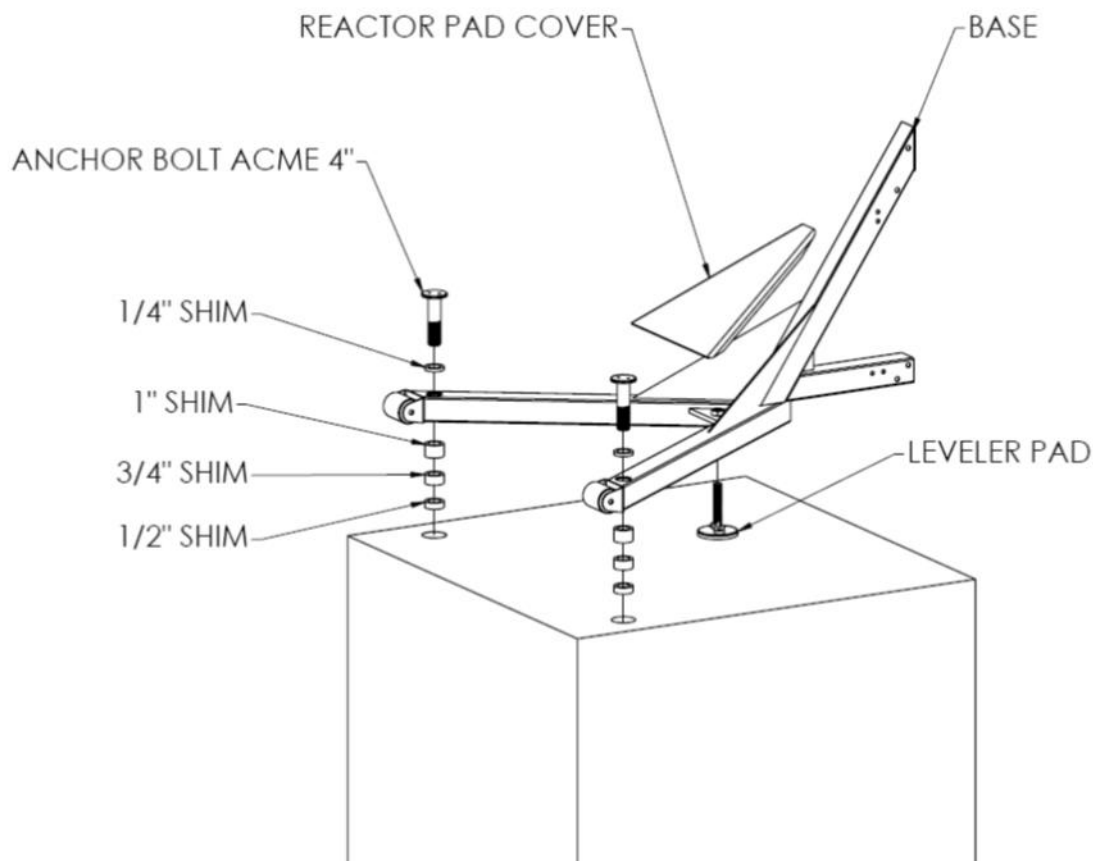

Figure 4
2. Use a 1-1/2" diameter concrete core drill to drill out the anchor holes to a depth of 2-3/16" as shown in Figure 4. Clean all of the debris from the holes. Check to see that the bottom of each hole is in solid concrete. The anchors will only hold if the surrounding concrete is solid. The top of the anchor should be  $\frac{1}{4}$ " below the deck surface. The anchors can be installed deeper, if necessary, to mount to sufficiently solid concrete.
5. Screw the leveler pad into the base assembly as shown in Figure 4, flush with the bottom of the base stand until further adjustment.
6. Bolt the lift to the anchors in the deck using two 1" by 4" acme bolts as shown in Figure 4. **Do not completely tighten the 1" diameter acme bolts at this time.**
10. Level the lift front to back, if necessary, by using donut shims between the base stand and each anchor, and adjusting the leveler pad by screwing the pad in or out. The donut shims can be used individually or in combination to level the lift. The donut shims can be used above the anchor base or below as shown in Figure 4 to prevent the acme bolts from bottoming out in the anchors.
12. Install cover on lift as shown in Figure 4.